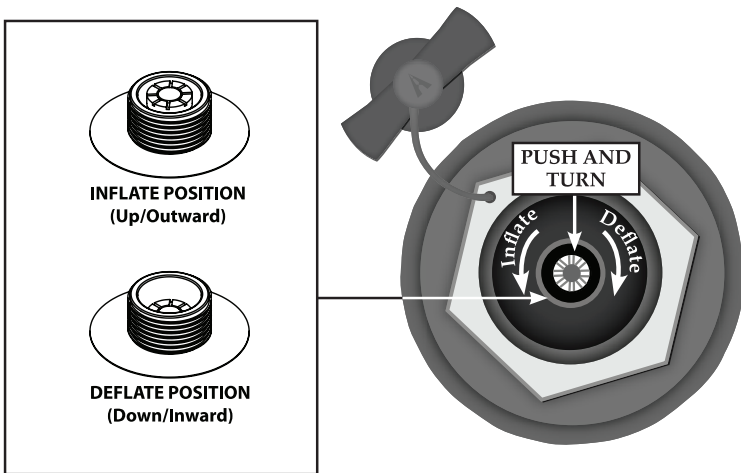

Figure 1. Inflate/ Deflate Spring Valve
2. Move to the 2 Main Chambers and check to be sure the Spring Valves are in the inflate position. See Figure 1 on previous page.
2. Using the tip of your finger, push the valve stems inward on each valve and rotate to the Deflate Position. (See Figure 1).